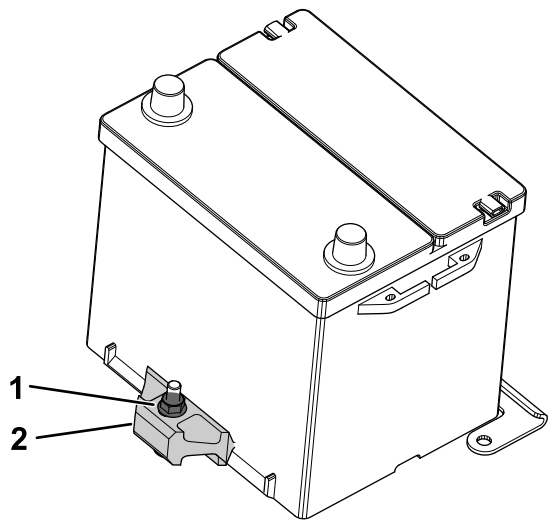

Figure 75
2. Loosen the locknut securing the battery retainer and remove the battery from the tray (Figure 75).
1. Place the battery on the battery tray and secure the battery to the retainer by tightening the locknut (Figure 75).